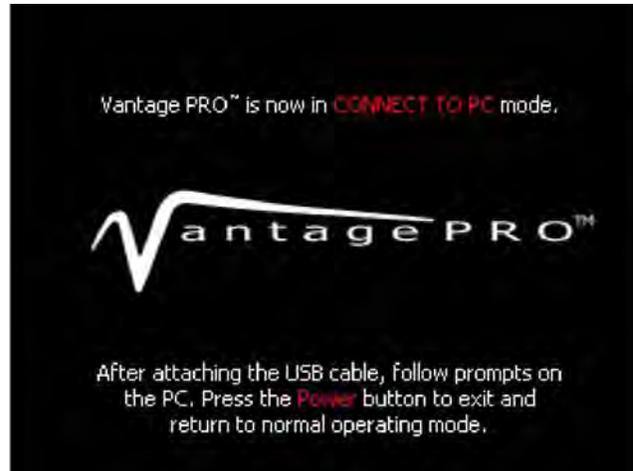

Figure 2-31 Sample Vantage PRO in Connect to PC mode message
5. Press the **Power** button to turn on the Vantage PRO unit and a Connect to PC mode message displays (Figure 2-31).